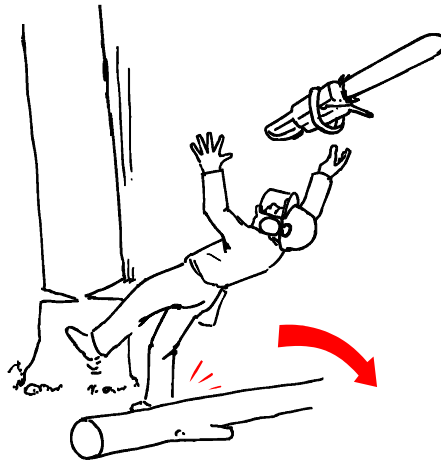

Figure 83 Clean obstacles around the base of the tree
- Prepare a clean work area around tree (Fig. 83).